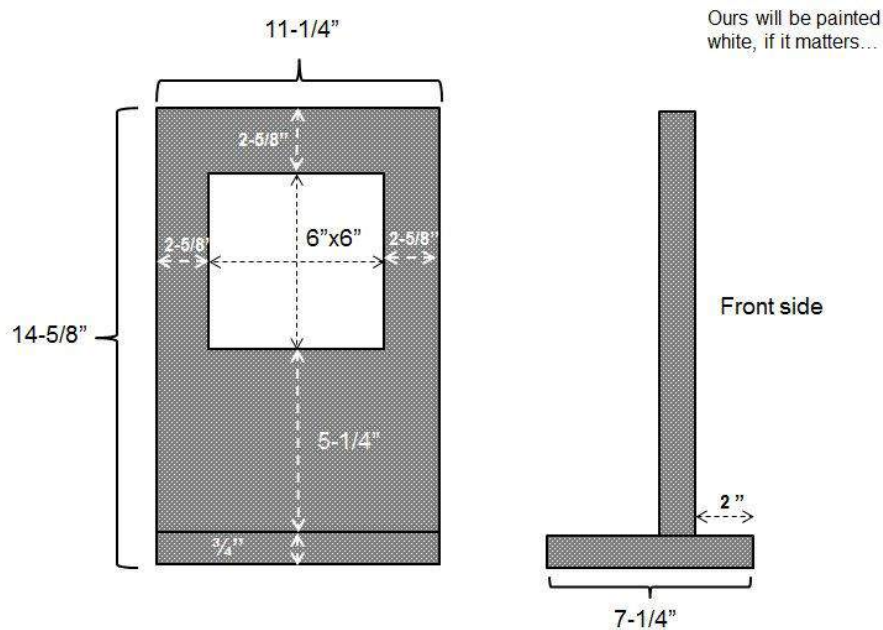

Figure 10 - Upright Goal dimensions
- (1) "Remains on" = all drive wheels/treads are in contact with the playing field at all time.
2) Upright Goal (see Figure 10)